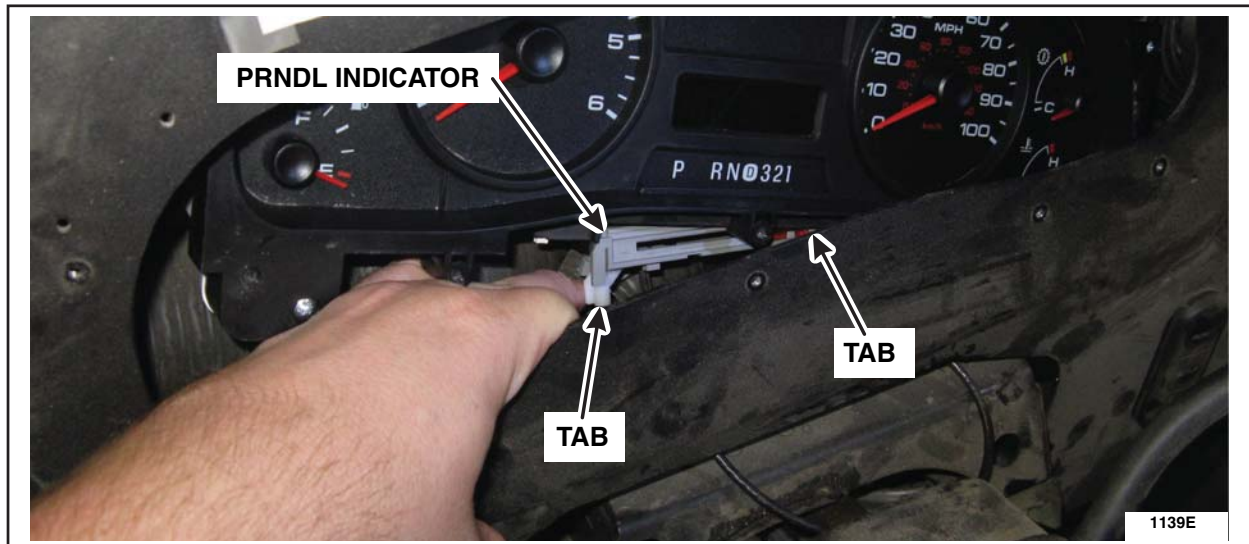

FIGURE 5
- Push in the tabs located on each end of the PRNDL indicator and remove the PRNDL cable/indicator assembly. See Figure 5.
1. Install the *new* PRNDL indicator/cable assembly into the IC. See Figure 5.